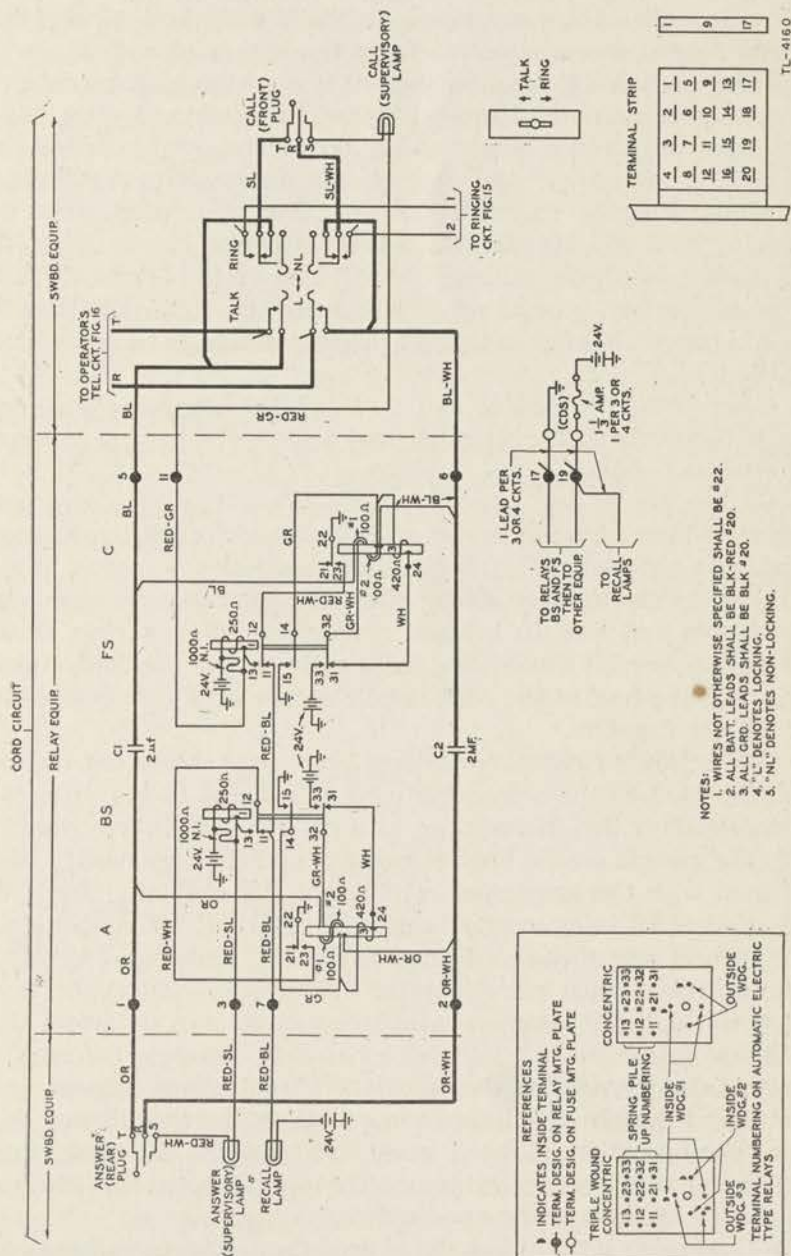

FIGURE 14.—Cord circuit.
*d. Detailed description of outgoing calls.*—(1) On outgoing calls when a plug is inserted in the trunk ANS jack, relay *A* operates and closes a metallic bridge across the trunk through the line side of the repeating coil and the winding of relay *B* in series. The line relay at the central office is in series with relay *B* and operates to signal the central office operator. Relay *B* does not operate at this time, and the loop to the cord circuit remains open, allowing the cord-circuit supervisory lamp to light. When the central office answers, the resistance in the circuit to relay *B* is decreased, causing relay *B* to operate, connecting a 500-ohm resistor in a loop to the cord circuit which extinguishes the cord-supervisory lamp through the operation of the cord circuit *A* relay.
(2) When the central office disconnects, the action is the same as described in subparagraph 14c(2), preceding.
(3) When the switchboard BD-89-A operator disconnects by removing the plug from the ANS jack, relay *A* releases and disconnects the winding of relay *B* from the trunk, thus opening the holding bridge and extending disconnect supervision to the central office.
**15. Universal cord circuit** (fig. 14).—This cord circuit is of the universal type; that is, it provides for connection between two common-battery lines, between two magneto lines, between a common-battery line and a magneto line, and between a magneto line and a common-battery line. Supervision on common-battery lines is